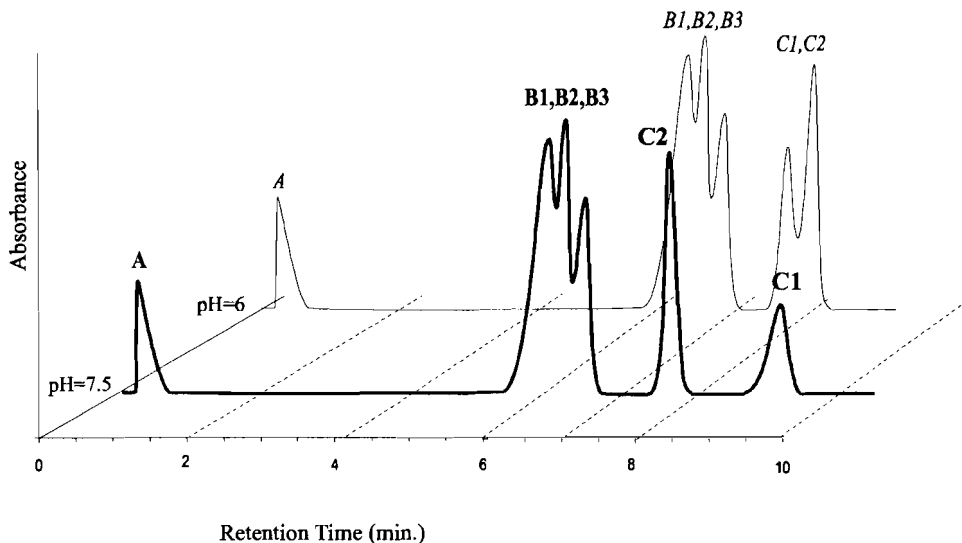

Figure 5-11. *Top* chromatogram: pH 6.0; *bottom* chromatogram: pH 7.5.
Step 4. Let us check whether the compounds C2 and C1 whose retention did not change are acidic, basic or unionizable compounds in nature. We can do this by increasing the pH of the mobile phase. This is to be done solely for the purpose of determining the nature of C2 and C1. The pH can be adjusted to 7.5 by adding dilute NaOH to the mobile phase. Figure 5-11 shows the chromatogram of our mixture at pH 7.5.
- At this high pH, the acidic component (A) elutes before the void volume again as it did at pH 6, step 1. From the introductory discussion one may deduce that an increase of the pH of the mobile phase will ionize the acidic components and will result in a significant decrease in their retention. Even if no acidic components were identified in our mixture, it is not recommended to work at high pH because of silica solubility (see discussion above).
- You can see in Fig. 5-11 that the C2 peak did not change its retention when the pH was adjusted from 6 to 7.5, indicating that it is most probably a neutral compound.